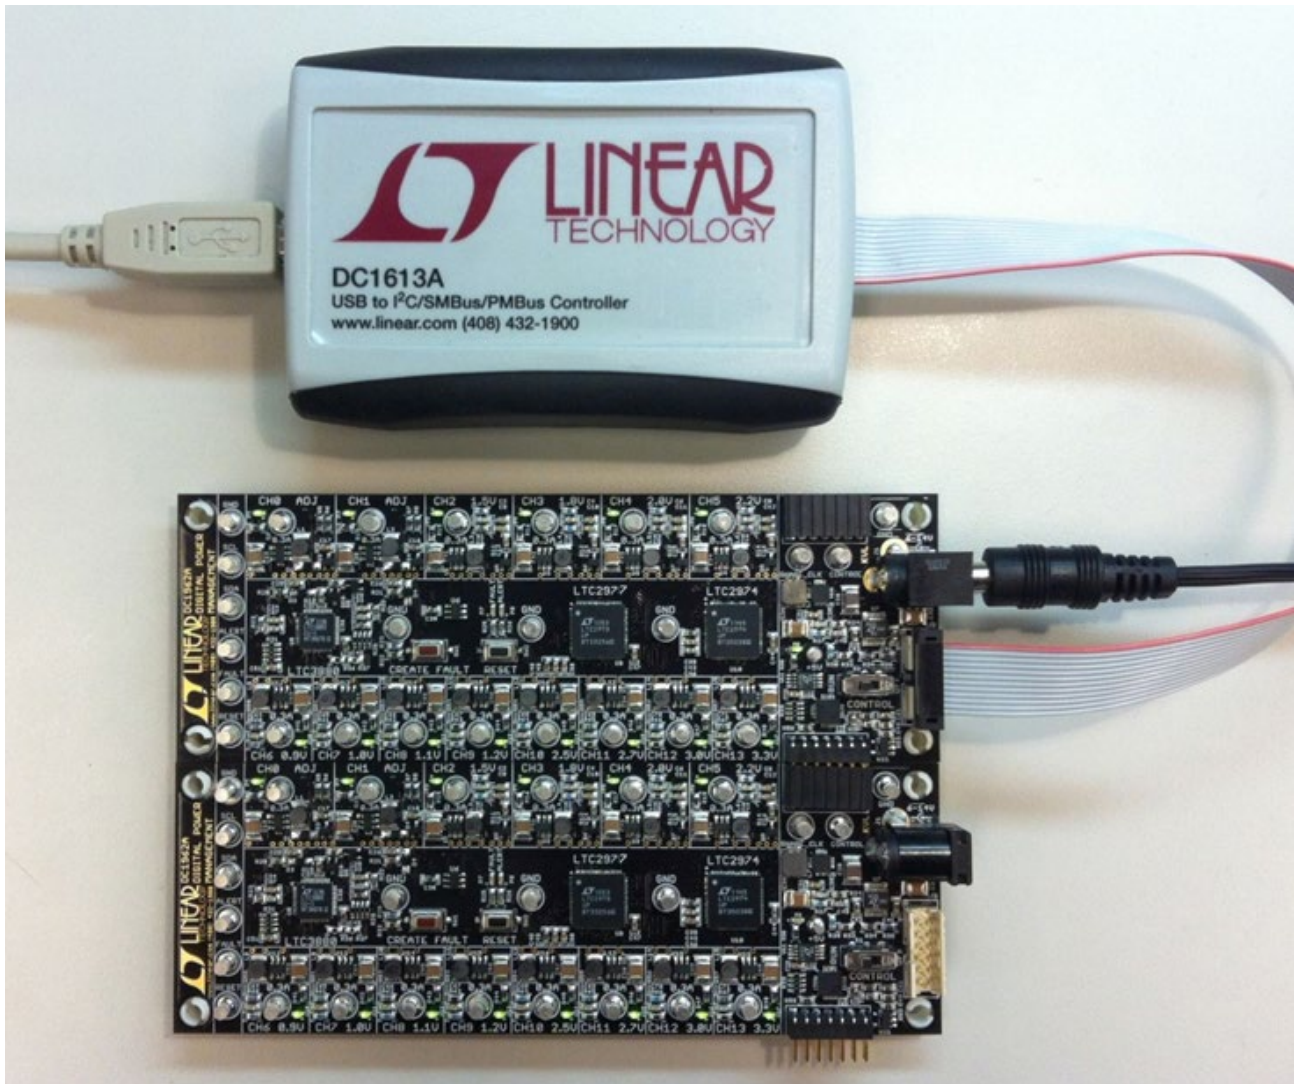

Figure 10. Array of Multiple DC1962C Demo Boards
- Plug in the +12V V_{IN} power into one of the boards as shown in Figure 10. Only one +12V power source is allowed.